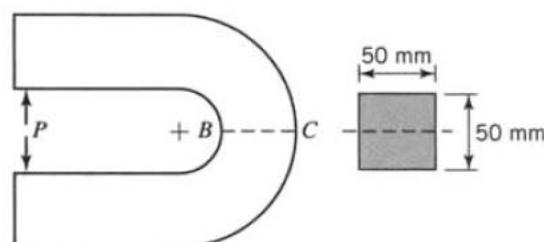

Fig.2
- The frame shown in Fig.2 has a 50 mm square cross section. The load P is located 100 mm from the center of curvature of the curved beam portion of the frame. The radius of curvature of the inner surface of the curved beam is $a=30$ mm. For $P=9.50$ KN, determine the values for the maximum tensile and compressive stresses in the frame.